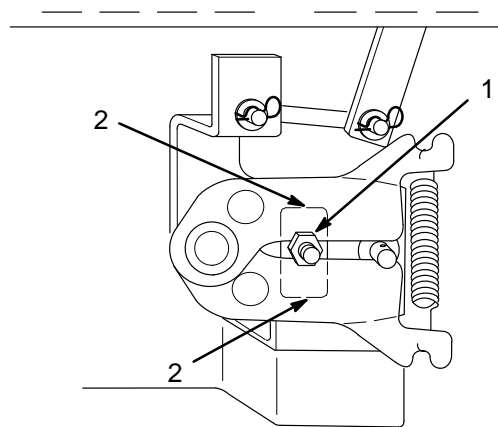

Figure 8
3. Loosen locknut securing adjustment (Fig. 8).
4. Move adjustment stud up or down until creep is minimized (Fig. 8). There may still be some wheel rotation with wheels off the ground.
5. Tighten the locknut (Fig. 8). Move the traction control pedal forward and reverse and allow it to center. Verify that there is no creep with the wheels on the ground.
After adjusting the hydro neutral position it is necessary to check the traction control pedal travel. While pressing the control pedal full forward and full reverse it must not contact the footrest pad before hitting the stop(s) at the transaxle (Fig. 8).
1. If contact is made with the foot pad, before hitting stop(s) on transaxle (Fig. 8), in either forward or reverse directions, adjustment is required.